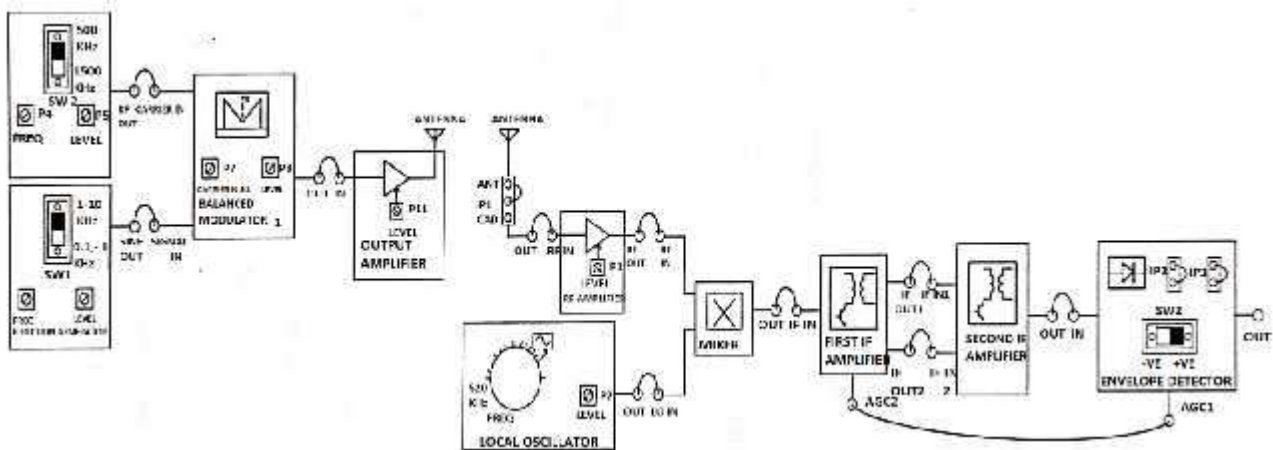

Fig.3.8
1. Refer to the FIG.3.8 & Carry out the following connections.